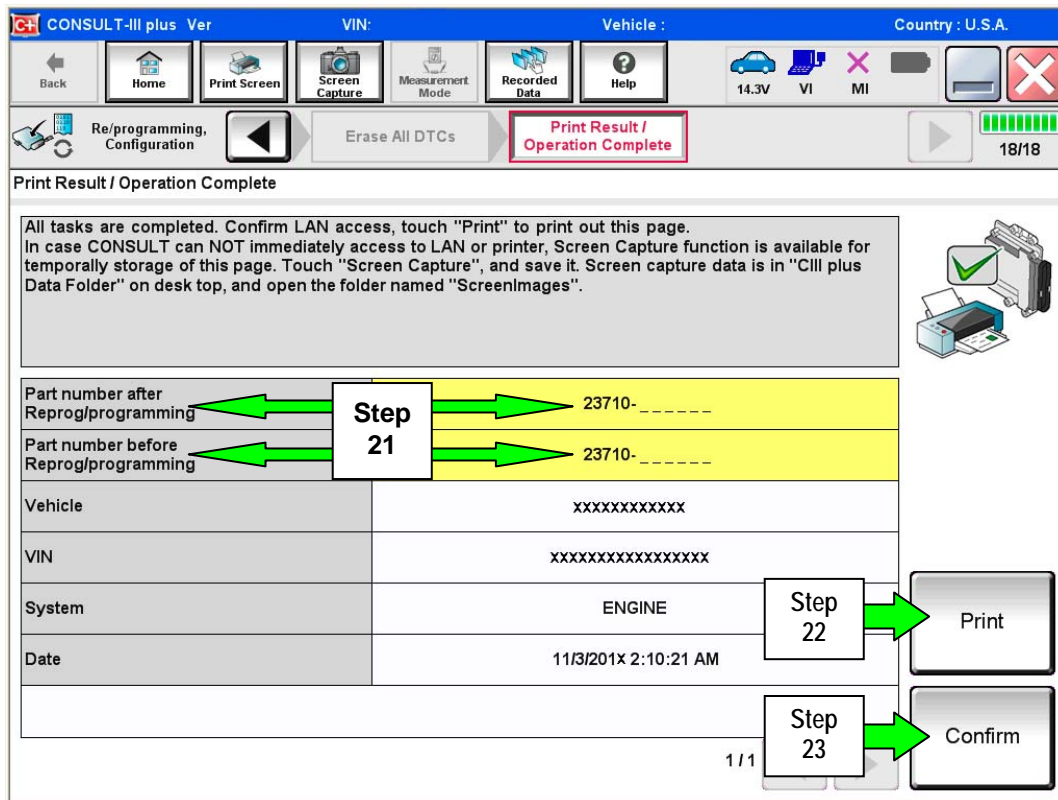

Figure 13
20. When the entire reprogramming process is complete, the screen in Figure 13 will display.
22. Print a copy of this screen (Figure 13) and attach it to the repair order for warranty documentation.